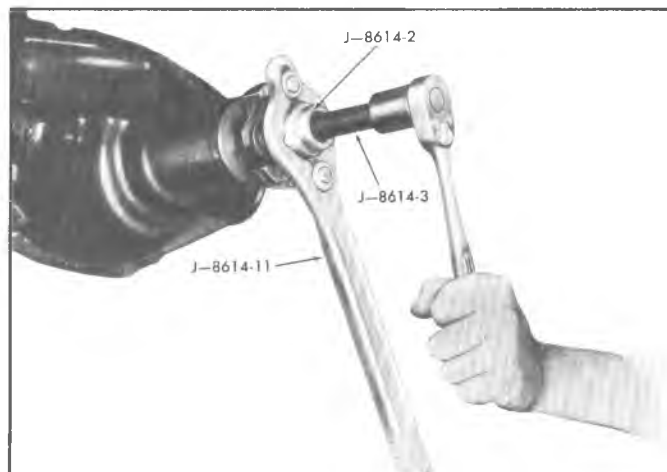

Fig. 13A—Drive Pinion Flange Removal
5. Thread end of J-8614-3 into small O.D. end of J-8614-2. Then with J-8614-11 installed as in step 3, insert J-8614-2 into J-8614-11 and turn it 1/8 of a turn to locked position. Remove flange by turning J-8614-3 while holding J-8614-11 as shown in figure 13A.